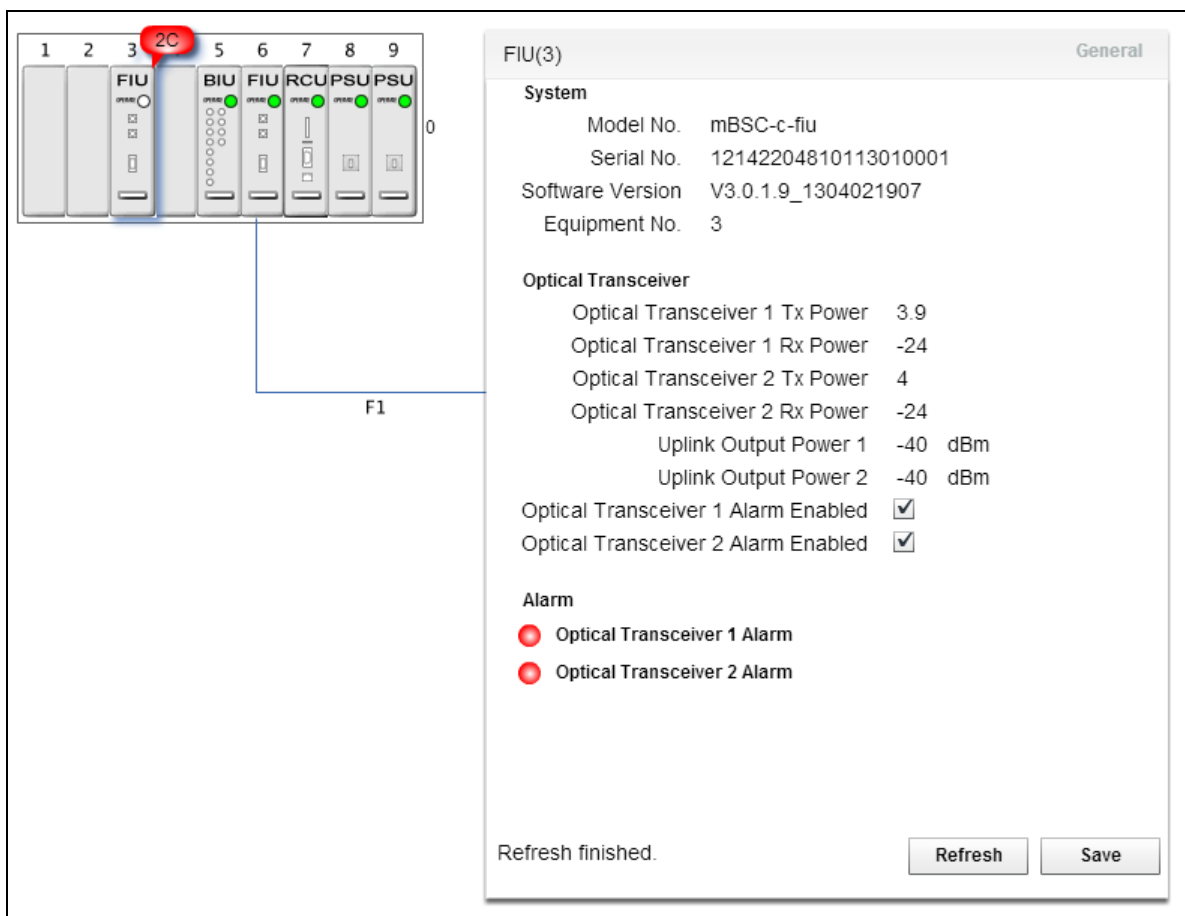

Figure 53 - Host Unit Alarm Status
- a. In the topology window the Downlink Output power is displayed next to the specific RU (e.g. 30.7 dBm indicated in the topology diagram by the 800MHz RU in Figure 53 – Up/Down Link Verification)